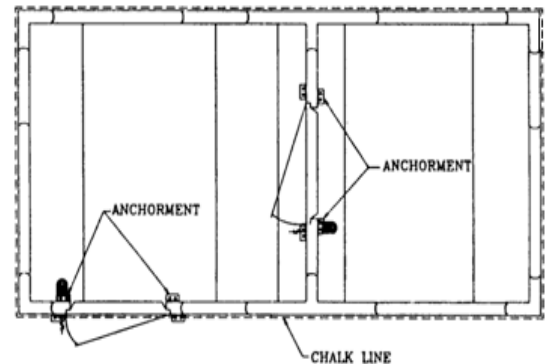

Figure 6 - Chalk Line Layout
2. **Using a chalk line, lay out the outside perimeter of the walk-in.** The perimeter should be 2-1/2" from the center line of the breaker strip. Make sure the area is square by measuring diagonally across corners (Refer to Figures 6 and 7).